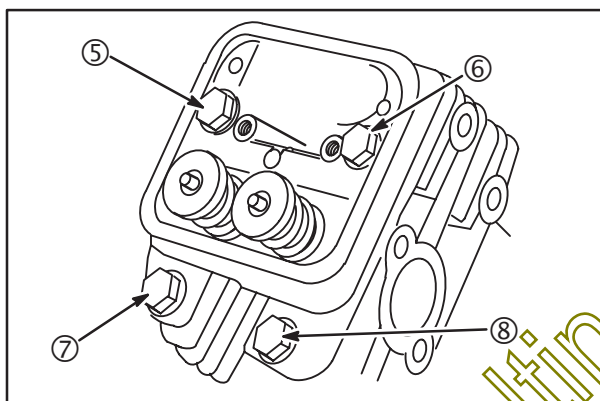

Fig. 6
3. Remove head bolts (5, 6, 7, 8) and cylinder head, **Fig. 6**. Discard cylinder head gasket.